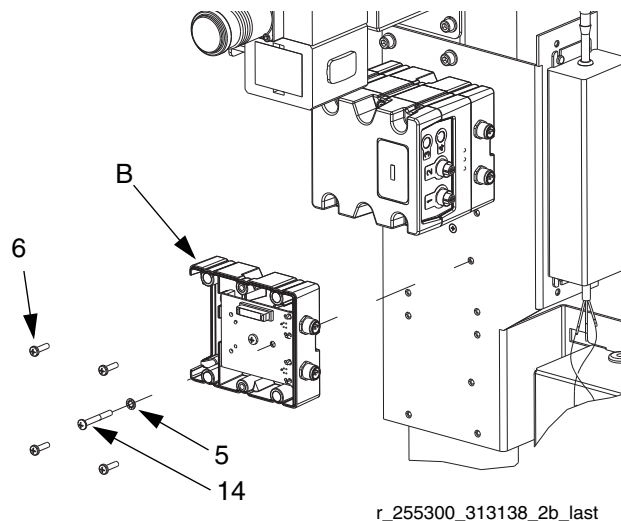

FIG. 3: Mount Base on Mounting Bracket
6. Install grounding screw (14) through washer (5) and tighten so that grounding screw (14) threads into mounting bracket. See FIG. 3.